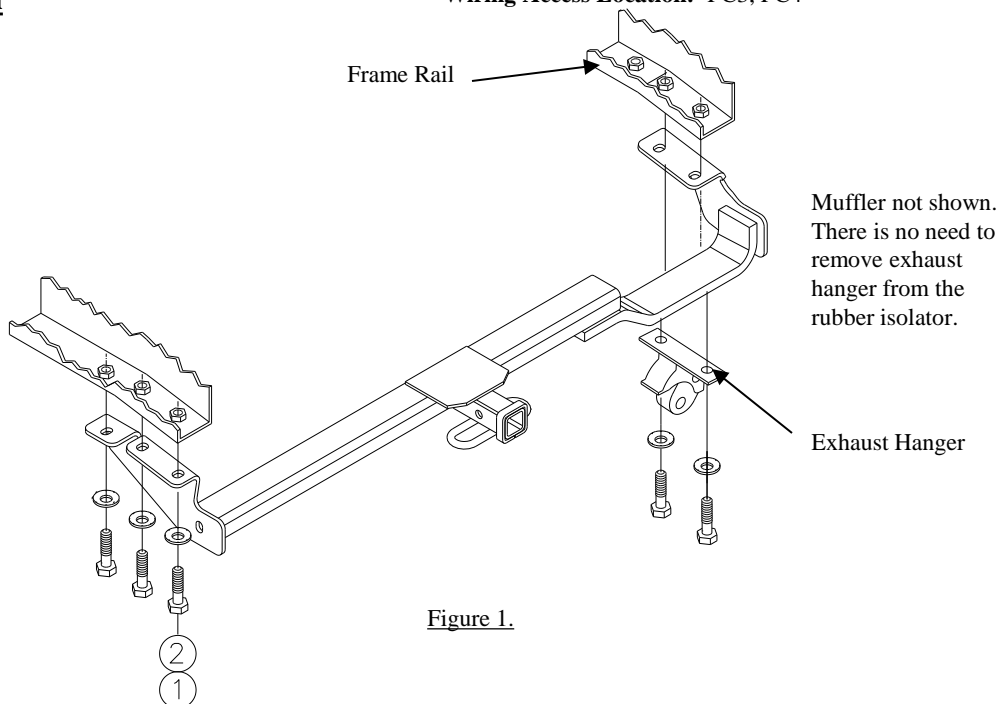

Figure 1.
①	Qty. (5)	Hex Bolt M10 x 1.25 CL8.8	②	Qty. (5)	Conical Washers 3/8
3. Raise hitch into position and install (5) 10mm bolts and conical toothed washers as shown in Figure 1. Install the bolts and conical toothed washers through the exhaust hanger bracket and hitch bracket on passenger's side frame rail as shown in Figure 1.